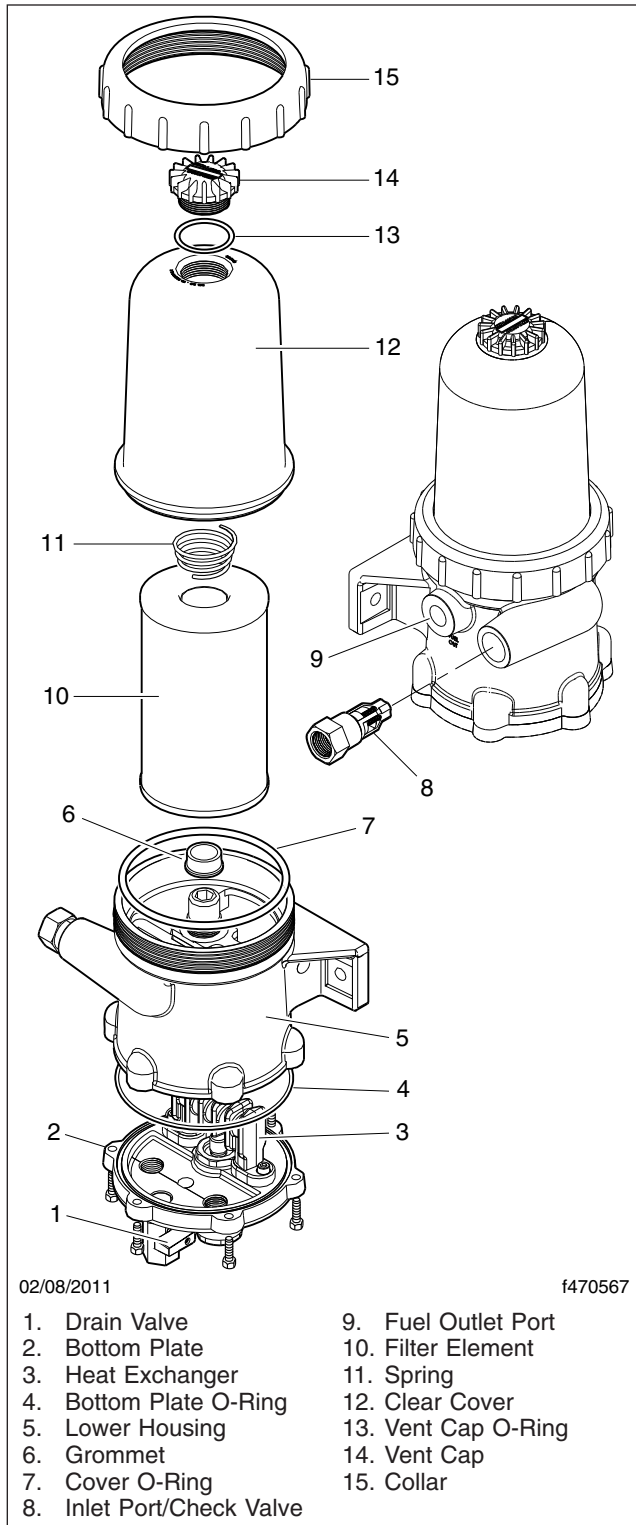

Fig. 21.2, DAVCO Fuel/Water Separator (Fuel Pro 382 shown)
3. Remove the vent cap (Fig. 21.2, Item 14) and open the drain valve (Fig. 21.2, Item 1) to drain the fuel to just below the collar level, then close the drain valve.